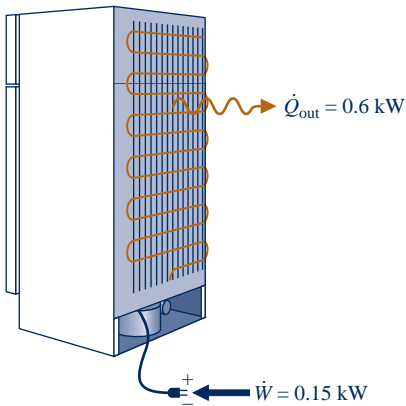

Fig. P2.87
2.87 The refrigerator shown in Fig. P2.87 steadily receives a power input of 0.15 kW while rejecting energy by heat transfer to the surroundings at a rate of 0.6 kW . Determine the rate at which energy is removed by heat transfer from the refrigerated space, in kW, and the refrigerator's coefficient of performance.